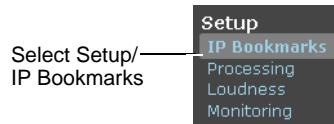

Figure 2-10 Select IP Bookmarks in the Setup Menu
1. Select **IP Bookmarks** in the **Setup** menu at the left side of the **Input** screen, as shown in Figure 2-10.